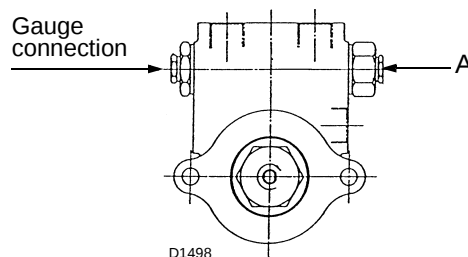

Fig. 26
- a) **delivery pressure of the oil pump:** turn the screw A)(Fig. 26) on the pump (to adjust the pressure refer to the diagram on page 8).